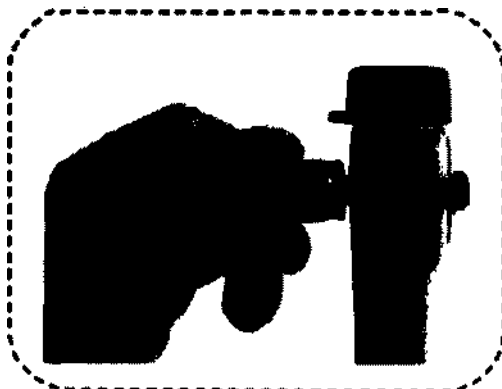

Fig 7.11
- Only the duct of leakage tester and the Pressure Compensation Cap can be immersed.(as shown in Fig 7.11).Immersion of other components of the leakage tester may lead to its damage.
- The pressure shall not exceed 240 mmHg. If the pressure increases too much, it might damage the endoscope. Press the pressure release valve to discharge the air (as shown in Fig 7.11).